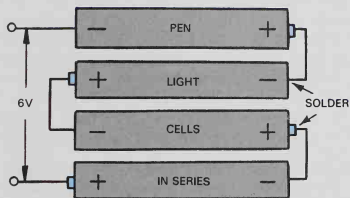

Fig. 18-12. Pen light cells connected in series.
2. Most any battery combination up to six volts may be used. Use two to four pen light cells connected in series, Fig. 18-12. Wrap the cells up in friction tape to make a